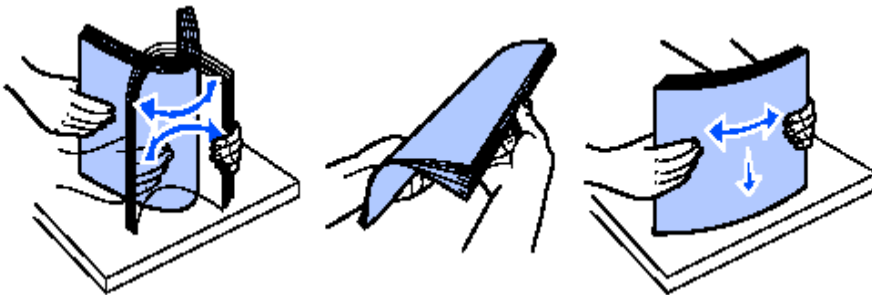

Figure 1: Prepare paper for use
2. Prepare a stack of paper for loading by flexing or fanning it back and forth (**Figure 1**).